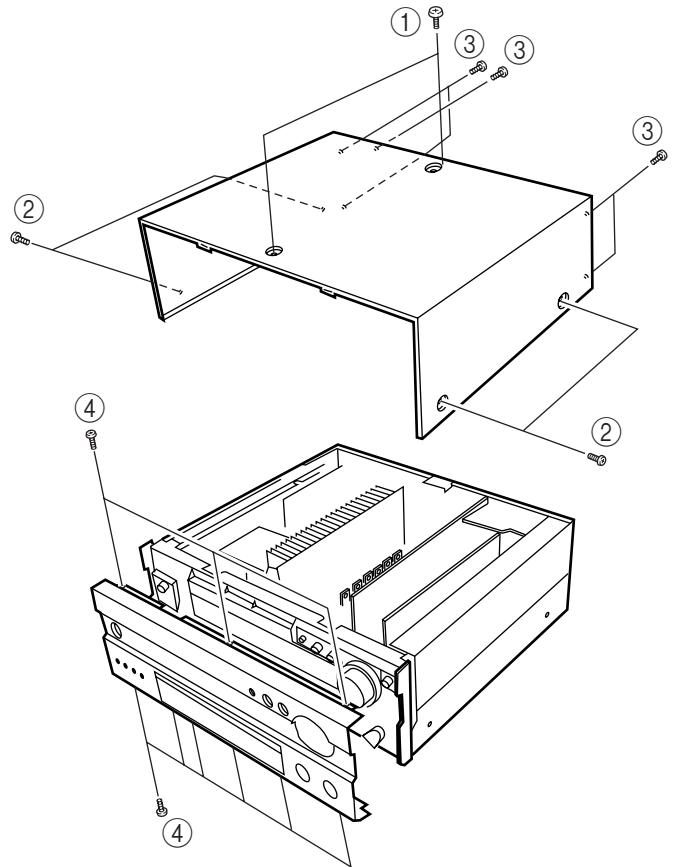
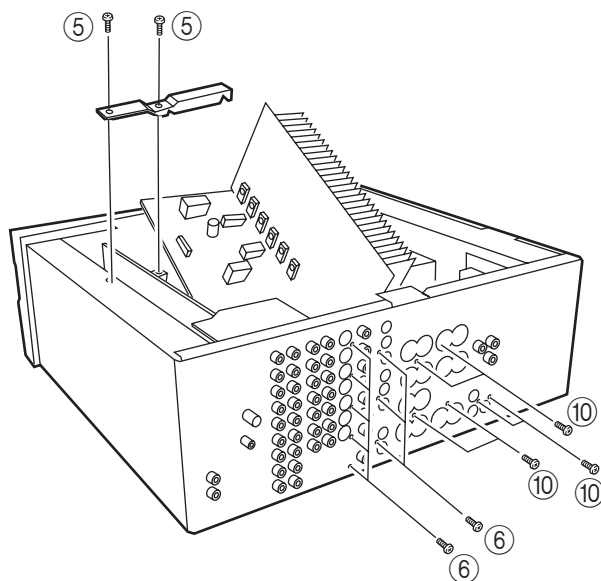

Fig. 1
Fig. 3
- a. Remove 2 screws (①), 4 screws (②) and 5 screws (③) in Fig. 1.
Remove 9 screws (④) in Fig. 1, and the Front Panel can be removed forward.
3. Removal of MAIN PCB (1)
- b. Remove 2 screws (⑤) in Fig. 3 AND remove the support metal plate.
- d. Remove 8 screws (⑥) in Fig. 3, and the VIDEO PCB (1) and VIDEO PCB (3) can be removed.
- j. Remove 6 screws (⑩) in Fig. 3.
- k. Pull out the MAIN PCB (1) forward as shown in Fig. 3.